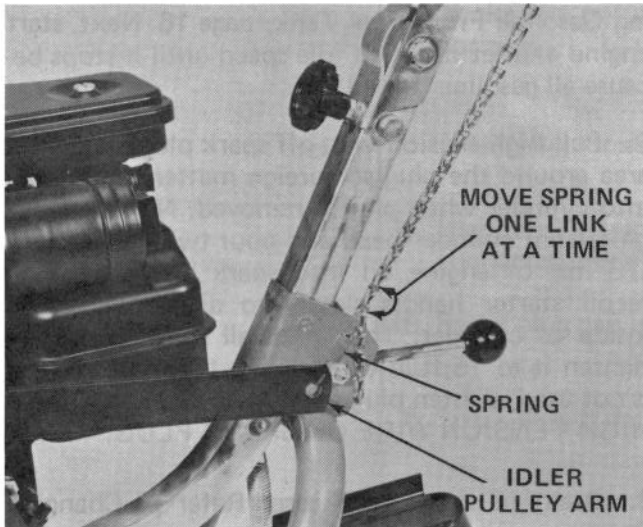

Figure 29
2. Move spring up on link on the chain. Reinstall spring on idler pulley arm (Fig. 29).